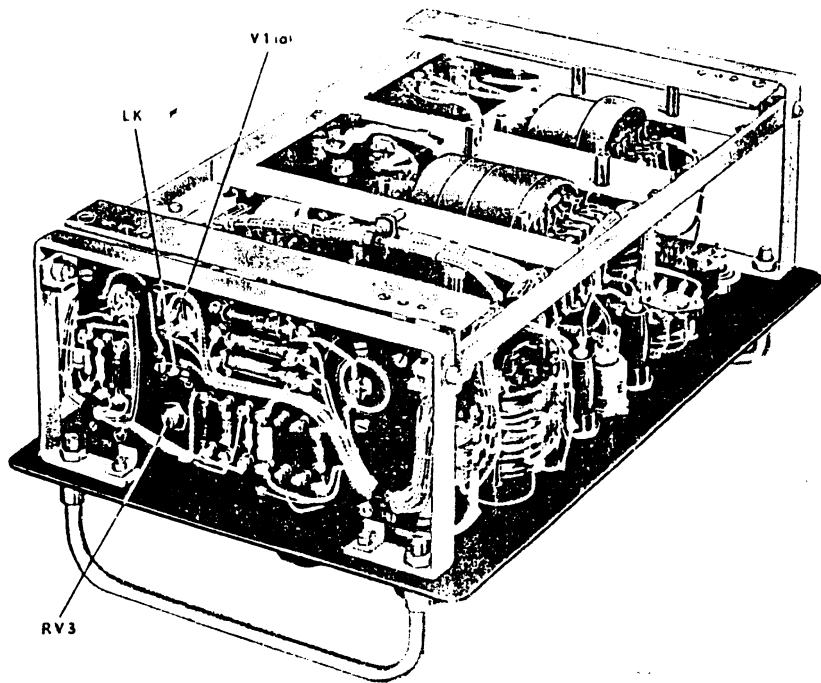

FIG. 13.
18. Use a Model '7', '8', '40', '47', '47A' or '48A' AvoMeter on its A.C. voltage ranges. Short the anode of V₁(a) to cathode (pins 2 and 5. See Fig. 13). Connect meter between S and C on the top cap selector panel, rotate the SCREEN VOLTAGE switch through successive positions, the external meter being set to the appropriate range as
20. Open LK (Fig. 13) and set the panel controls as follows:—
21. Connect measuring leads of Valve Voltmeter across RV2 (Fig. 6) and adjust RV3 (Fig. 13) until a voltage reading of 20.8V is obtained. Transfer measuring leads to G_1 and C sockets on the top cap connection panel, or if panel has been dis-connected for servicing, to the G_1 and C positions on the tag board at back of unit. (See Fig. 6.) Check that at the 13 and 4 marks of the dial readings of 6.75V and $2.1V \pm 5\%$ are obtained. If either or both readings are out of tolerance, the dial should be adjusted mechanically to split the error. If it is necessary to make an adjustment, slacken the three counter-sunk headed screws on the top of the dial, which will then be free to move within the latitude of kidney shaped slots. After adjustment, re-tighten screws and check readings. The areas marked 0, 5, 15 and 40 should correspond within the indicated area to 0V, 2.6V, 7.8V and $20.8V \pm 5\%$ respectively.
23. Standardise the Valve Voltmeter at 47V D.C. Close the link LK (Fig. 13) and set the panel controls as follows:—